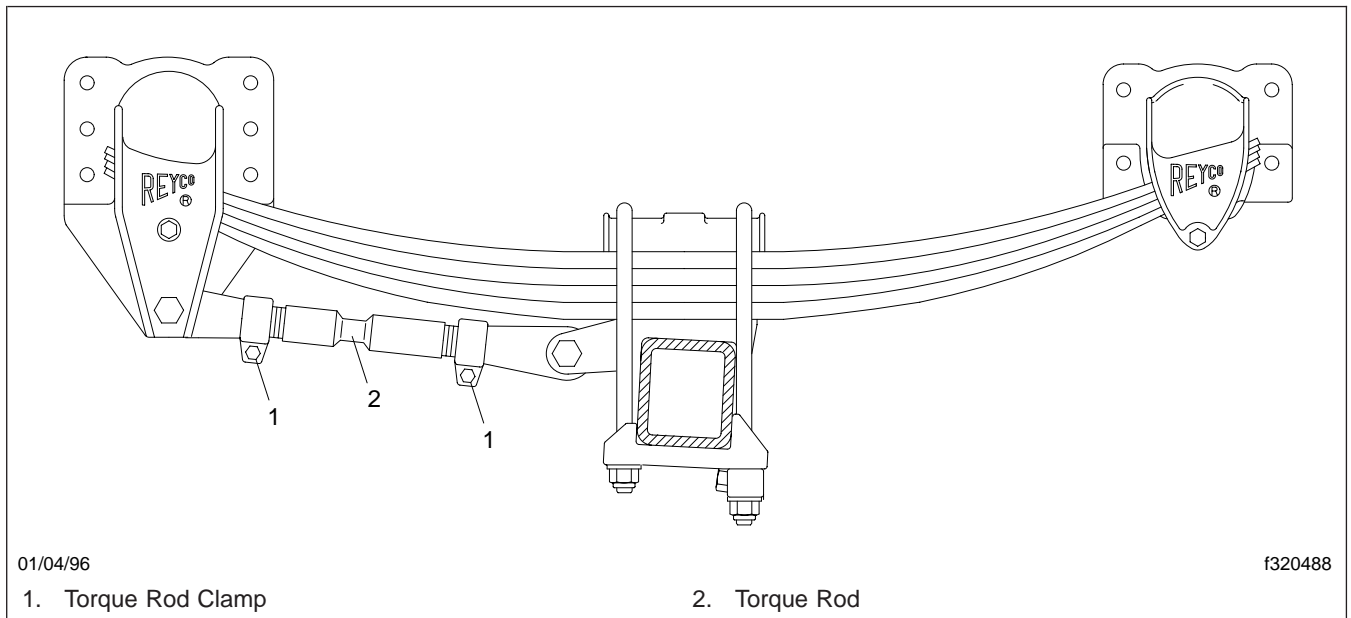
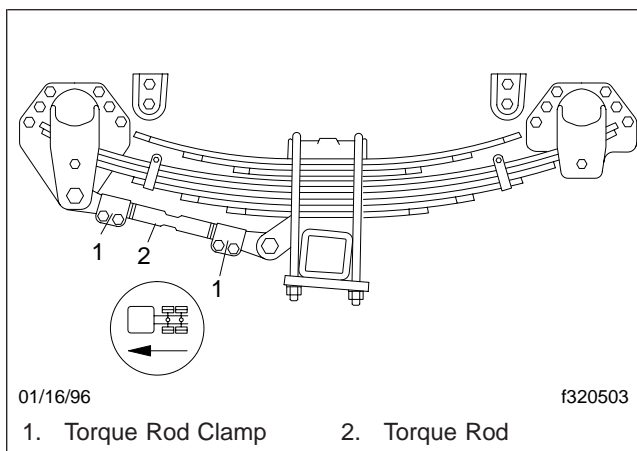

Fig. 11, Reyco 79KB Torque Rod Clamp Position
Fig. 12, Reyco 179 Torque Rod Clamp Position
1. Check that the torque rod clamps are directed away from the spring to prevent possible interference during operation. See **Fig. 11** for a Reyco 79KB, or **Fig. 12** for a Reyco 179.